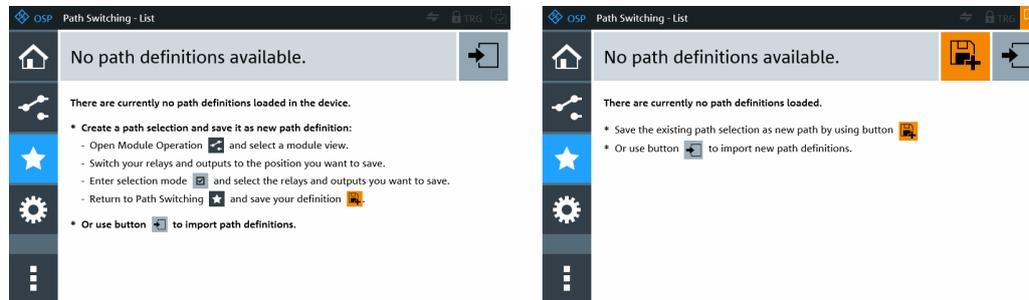

Figure 5-31: Not path definitions available ...
- You see the left-hand dialog in Figure 5-31, when you go to the empty "Path Switching" dialog without having selected anything that allows defining a path. However, you can import path definitions.
- You see the right-hand dialog in Figure 5-31, when you have selected one or more relays or output channels in the "Module Operation" dialog. Optionally, you can also switch some of the selected items. If you now go to the empty "Path Switching" dialog, it allows you saving your selection as a new path definition by using the "Save As New Path" button, as described in "Manage path selection:" on page 168.